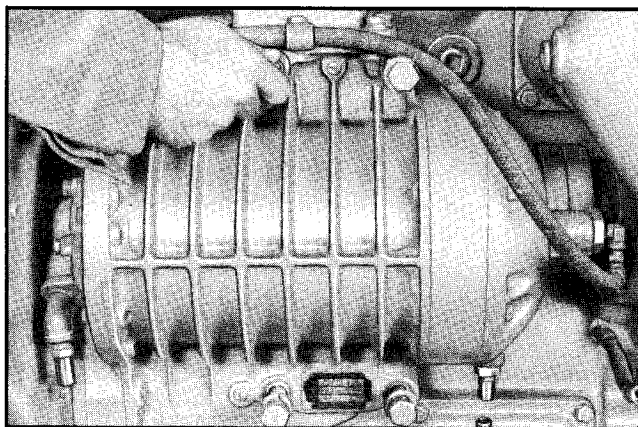

Fig. 4-9. Installing supercharger
3. Lift the supercharger to the engine and engage the coupling to the drive unit. Fig. 4-9.